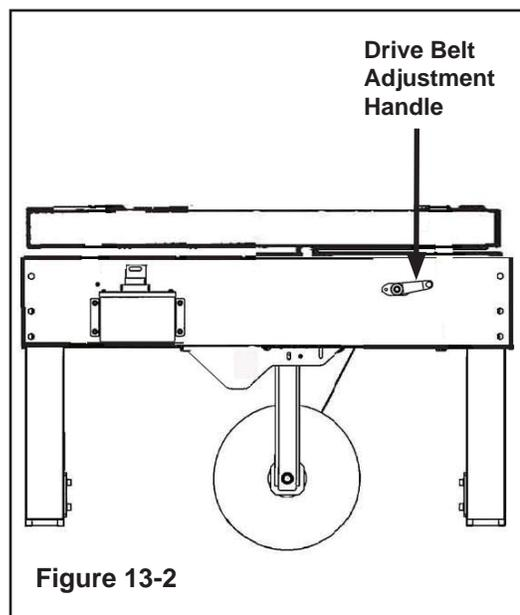

Figure 13-2
- Synthetic Silicone Spray may be used on Adjustment Handle (**Figure 13-2**).